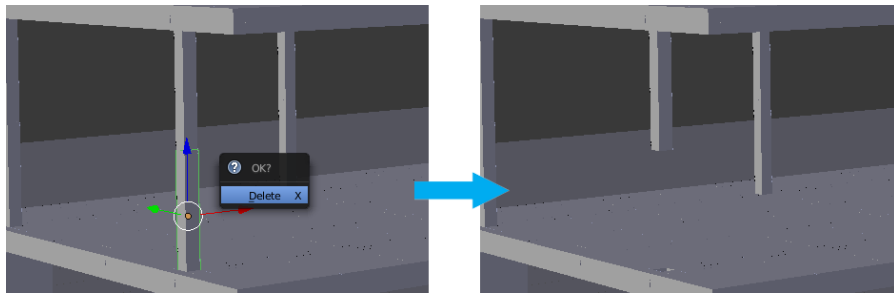

Figure 13
- Now select any of the pillar segments, press “delete” on your keypad, Figure 13. You can repeat this process and delete more elements if you like.